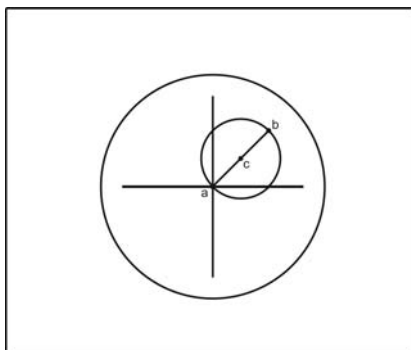

Fig.22
(1) Find a black dot in the image in observation, and move the slice, in order to locate it with point “a” in the center of cross in eyepiece. (See Fig. 22)
(2) Rotating the stage, if the objective center does not superpose with the stage rotary center, the dot will be away from the cross center and rotate with a circle, the center “c” is just the rotary center of the stage.